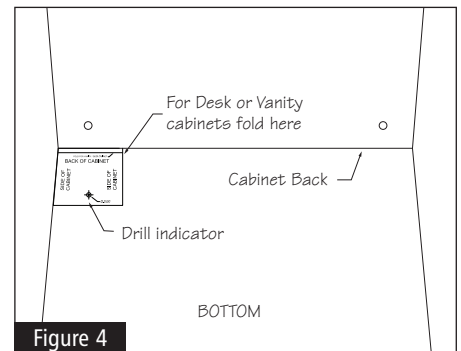

Figure 4
**7** Carefully cut out the two templates and place one in the bottom back left and right corners of the cabinet as shown in Figure 4. If working in a Desk or Vanity Cabinet please fold along the indicated line.